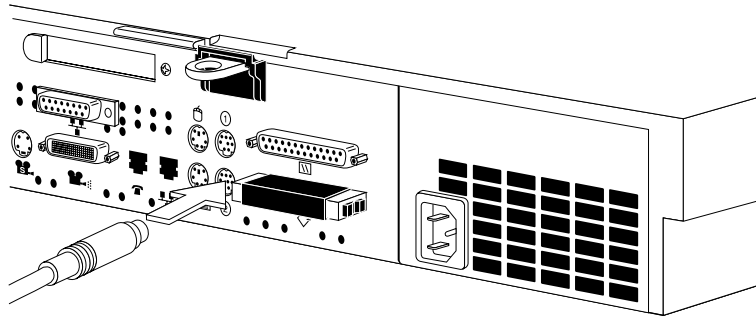

Figure 5-12 Connecting the Serial Cable to the Serial Port
- Plug the other end of the cable to the serial connector on the back of the Indy workstation, as shown in Figure 5-12.